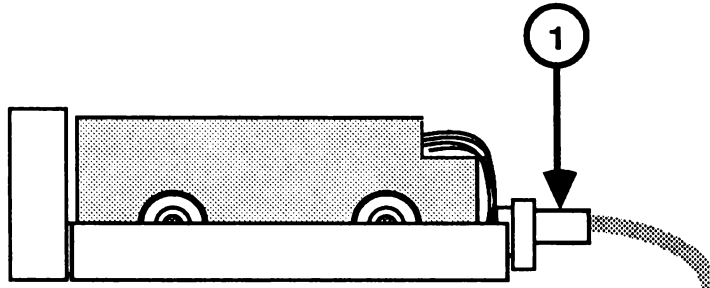

FIGURE 6
1. Fit the cable brace (Figure 6, #1) into the slot at the back of the case bottom.